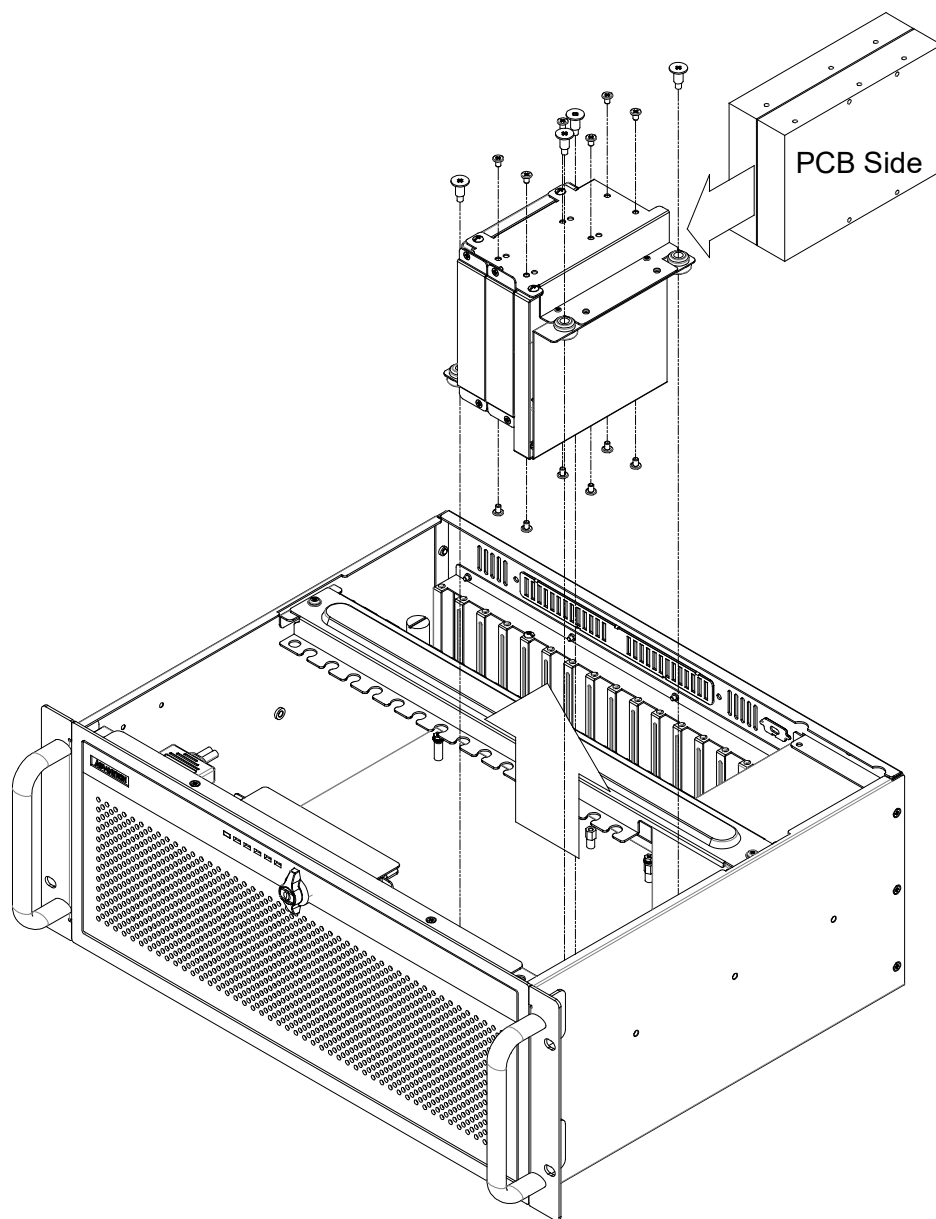

Figure 2.10 Installing internal 3.5" HDD/ 安装内置 3.5" 硬盘 / 安装内装 3.5" 硬碟
**Note!** Please ensure the direction of the PCB side is correct as shown on the figure 2.10 while installing the 3.5" HDD.